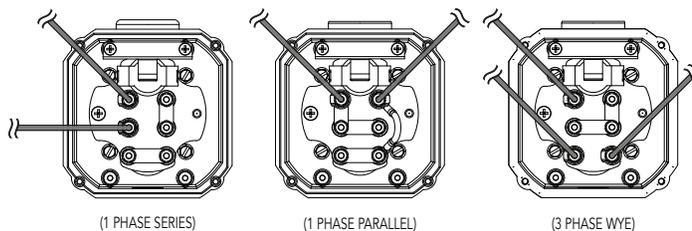

Figure 10. Heating tank element phase configurations. Replacement elements may be a different phase configuration.
2. Close isolation valves. Unscrew tank drain (A). Drain fluid from tank.
3. Remove enclosure cover (F) from wiring enclosure (D).
4. The wire connections inside the enclosure correspond to one of the phase configurations shown on the following page. Note your unit's phase configuration and wire connection positions. See *Figure 10*.